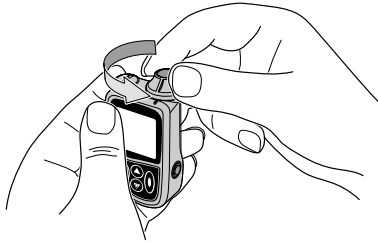

Figure 7
1. Turn the cartridge cap counterclockwise (left) approximately $\frac{1}{4}$ turn and remove it from the pump (see Figure 7). If required, remove the used cartridge (you may get the **Cartridge Removed** alert; press **OK**). **NOTE:** turning the cartridge cap may also turn the cartridge, so it may already be disconnected from the pushrod when the cap is removed. If not, turn the cartridge $\frac{1}{4}$ turn to the left to disconnect it from the pushrod.